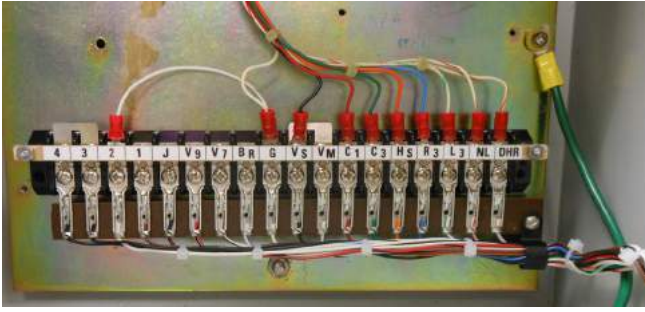

Figure 15. Fanning strip installed into terminal board
- Connect the green ground lead to the ground connection located on the back panel of the control enclosure. Refer to **Figure 15**.
- Install the wiring harness fanning strip into TB2 on the backpanel. Refer to **Figure 15**.